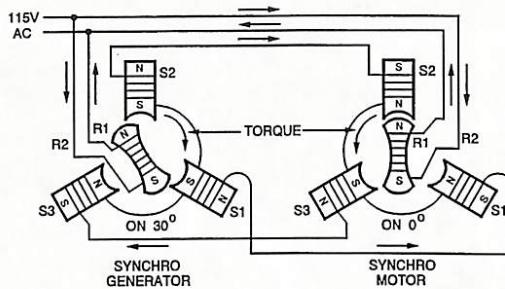

Figure 22. Stator Windings Not Aligned
**Current flow.** When the rotors are not in corresponding positions, the voltage induced in corresponding stators is not equal and current flows in the stator windings of both motor and generator (Figure 22). The current flowing in the stators causes a magnetic field to interact with the magnetic field around the rotors, exerting a torque on the rotors of both motor and generator. The torques in the motor and generator are opposite in direction; both try to turn the rotors toward corresponding positions. In normal synchro systems, the generator rotor is positioned by an external device. Only the motor rotor is free to turn toward a position of correspondence. Stator currents are almost directly proportional to the difference in rotor positions.